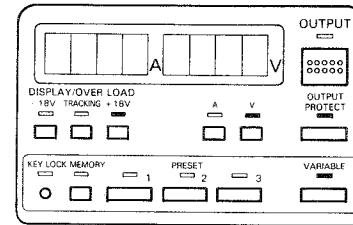

Fig. 11
- 1) Set the LEDs as shown in Figure 11. In the Figure, the VARIABLE KEY ⑩ is selected as an output setting key.
- 2) Press the OUTPUT KEY ⑬, to turn "ON" the output.
- 1) Press the OUTPUT KEY as shown in Figure 11, to turn off its LED.